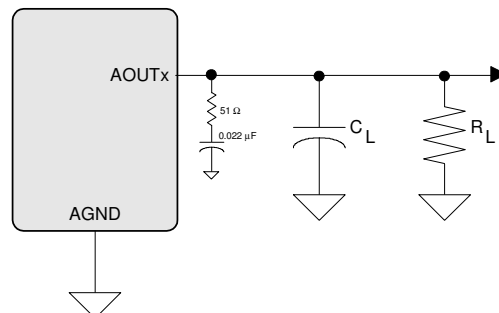

Figure 3. Headphone Output Test Load
(Test conditions (unless otherwise specified): Input test signal is a full-scale 997 Hz sine wave; measurement bandwidth is 10 Hz to 20 kHz; Sample Frequency = 48 kHz and 96 kHz; test load $R_L = 10\text{ k}\Omega$, $C_L = 10\text{ pF}$ for the line output (see Figure 3), and test load $R_L = 16\ \Omega$, $C_L = 10\text{ pF}$ (see Figure 3) for the headphone output. HP_GAIN[2:0] = 011.)
Test conditions (unless otherwise specified): Input test signal is a full-scale 997 Hz sine wave; measurement bandwidth is 10 Hz to 20 kHz; Sample Frequency = 48 kHz; test load $R_L = 10\text{ k}\Omega$, $C_L = 10\text{ pF}$ (see Figure 3).
Test conditions (unless otherwise specified): Input test signal is a full-scale 997 Hz sine wave; measurement bandwidth is 10 Hz to 20 kHz; Sample Frequency = 48 kHz; test load $R_L = 16 \Omega$, $C_L = 10 \text{ pF}$ (see Figure 3).
10. See Figure 3. R_L and C_L reflect the recommended minimum resistance and maximum capacitance required for the internal op-amp's stability and signal integrity. In this circuit topology, C_L will effectively move the band-limiting pole of the amp in the output stage. Increasing this value beyond the recommended 150 pF can cause the internal op-amp to become unstable.